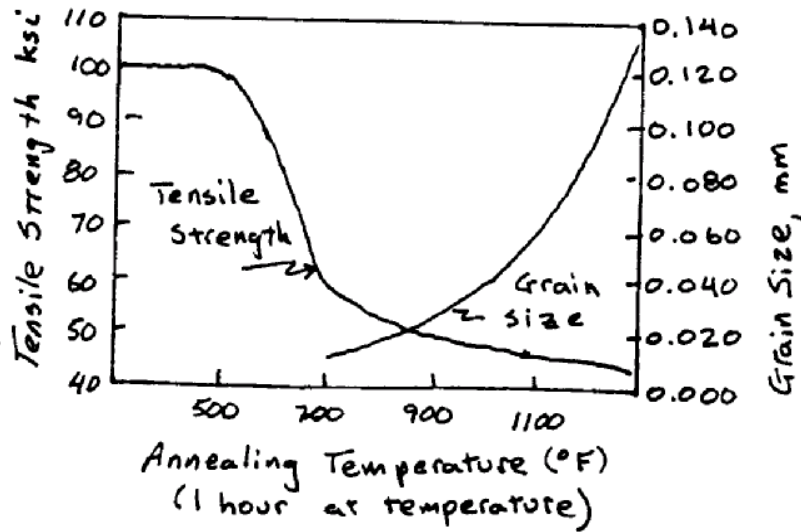

Figure 5-1. Tensile Strength and Grain Size as a Function of Annealing Temperatures for Plastically Deformed Material.
3. **Grain Growth:** If a recrystallized material is further annealed at the same temperature or at a higher temperature **grain growth usually occurs**. Boundaries between annealed grains migrate and larger grains grow by an increase in the average grain size (or a decrease in the ASTM grain size number,  $n$ ). Grain growth depends on the fact that the **grain boundary energy of the material is reduced due** to the decrease in grain boundary area for a given volume of material. The effect of recovery, recrystallization and grain growth on grain size, internal stress and strength (or hardness) of a plastically deformed material is illustrated schematically in **Figure 5-1**.